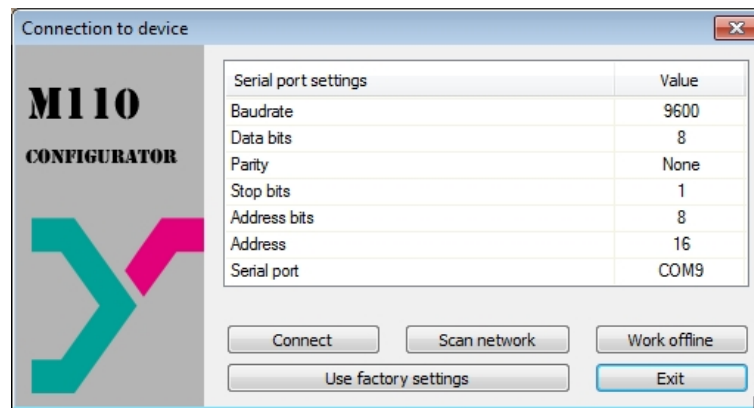

Fig. 7.1 M110 Configurator start window
- In the window 'Connection to device' enter the values from the Table 7.1 or click the key 'Use factory settings' (see Fig. 7.1);